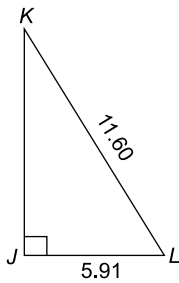

Figure RT1.1
- In triangle JKL in Figure RT1.1, find: